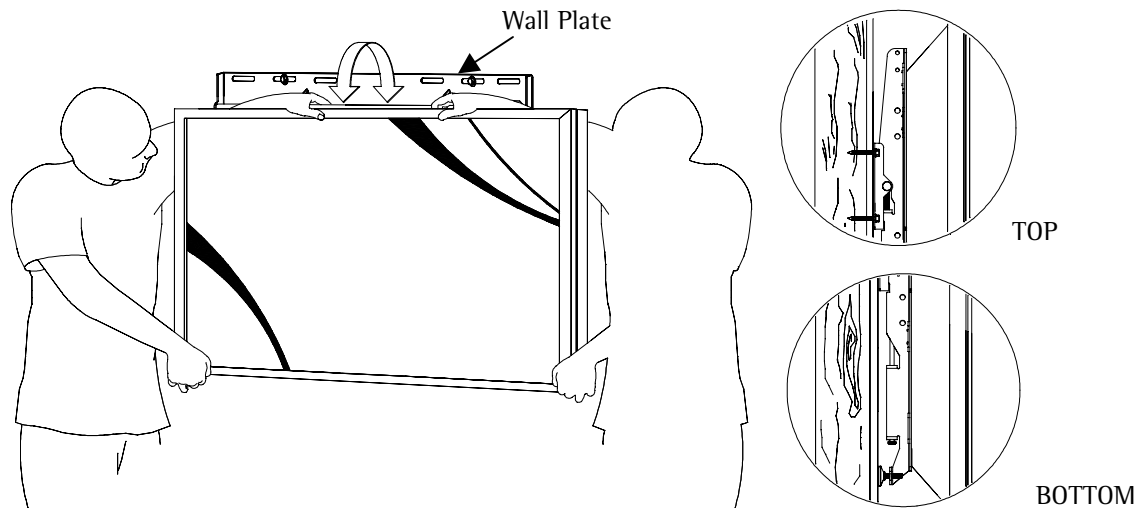

Figure 15. Securing the Flat Panel
**WARNING:** At least (2) qualified personnel are strongly recommended for installation of this product. Failure to do so could result in serious injury and possible damage to the flat panel.
1. Raise the flat panel with the LEFT and RIGHT mounting brackets secured to the flat panel and insert the top hooks from each bracket to the rod on the wall plate (Figure 15).